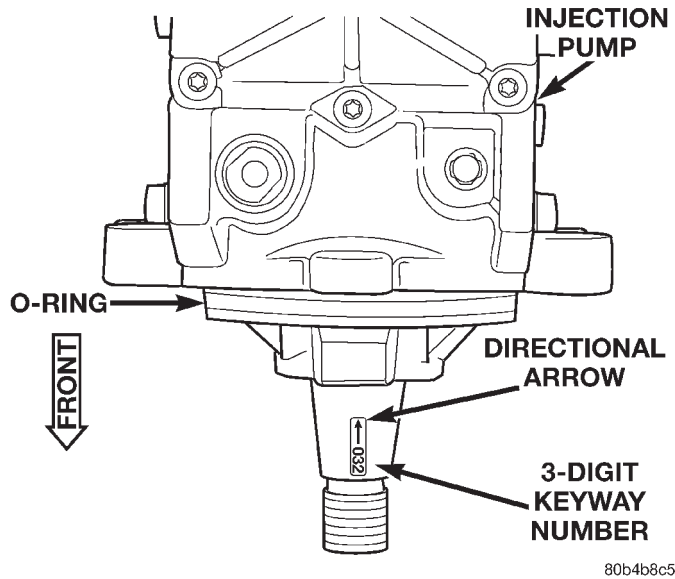
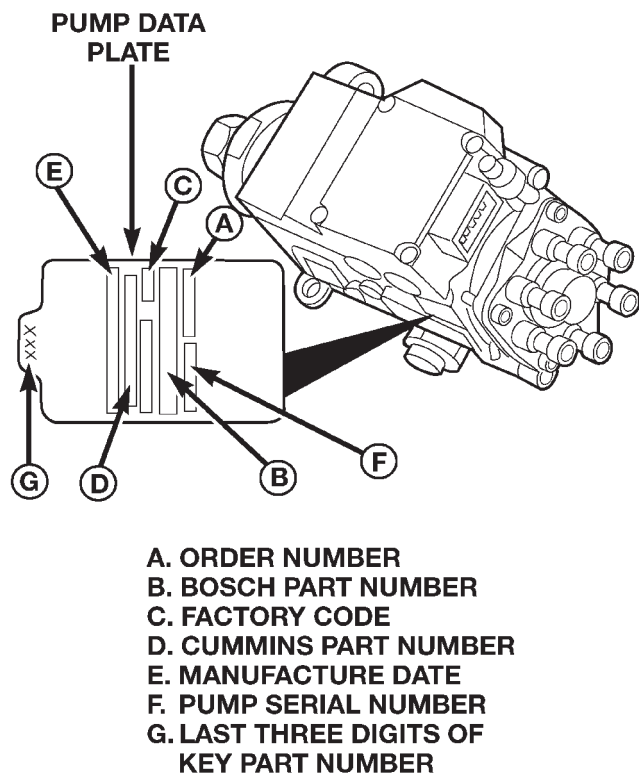

Fig. 73 Keyway, Keyway Arrow and Keyway Number
Fig. 74 Injection Pump Data Plate Location
(15) Remove injection pump from gear housing. **Take care not to nick injection pump shaft on aluminum gear housing when removing pump. Also be very careful not to drop pump keyway (Fig. 73) into gear housing.**
(3) Install new rubber o-ring (Fig. 73) at pump mounting area.
(6) The pump/gear keyway has an arrow and a 3-digit number stamped at top edge (Fig. 73). Position keyway into pump shaft with **arrow pointed to rear of pump**. Also be sure 3-digit number stamped to top of keyway is same as 3-digit number stamped to injection pump data plate (Fig. 74). If wrong keyway is installed, a diagnostic trouble code may be set.